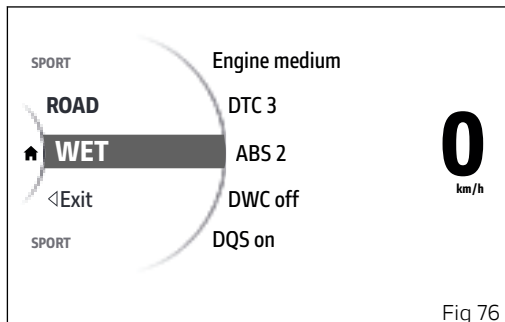

Fig 76
- Press and hold the MODE/ENTER button (3) for a long time.
- The dedicated screen is displayed (Fig 76) where, using buttons (1) and (2), it is possible to scroll through the available Riding Modes and display the parameters with the relevant set values.
- Press the MODE/ENTER button (3) to confirm.